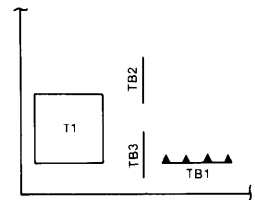

Figure 5. Location of TB1
- Locate terminal board TB1 on the underside of the chassis (see Figure 5).